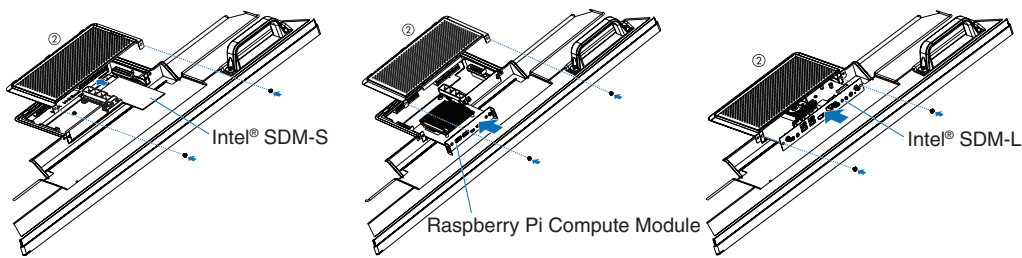

Figure 2
4. Attach the included OPTION COVER ② with the removed screws (Figure 2).
5. Insert the Option Board into the monitor and affix it in place with the removed screws (Figure 2). (Recommended fasten force: 50 - 80 N•cm).